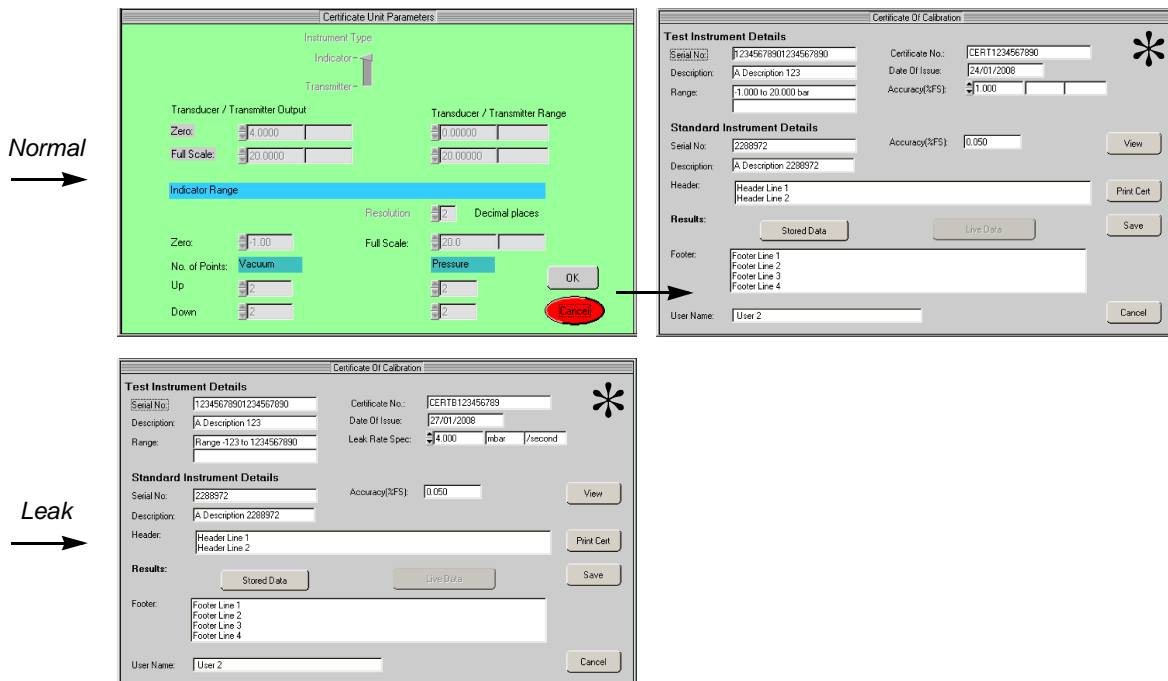

Figure 5-17: Example display - Edit sequence (Normal or Leak)
2. If necessary, select a different *Directory*. Then select a file name (*.cer) from the list and click on *OK*. > See Figure 5-17
- menu *Certificate* > *Edit* (Section 5.5.5) > See Figure 5-17.
- For an available certificate: menu *Certificate > Edit* (Section 5.5.5) > See Figure 5-17.